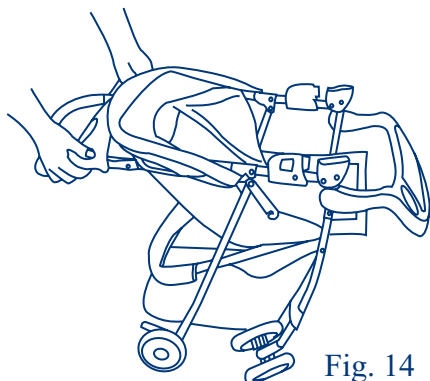

Fig. 14
* Close the canopy as described in the Canopy section above. To fold the stroller slide the red fold lock with your thumb while squeezing the large red fold button in the center of the handle and push downward on the handle. Once the stroller begins to fold, release the red handle and pull rearward on the child tray until the stroller is folded. Secure the stroller in the folded position by fastening the fold locking latch, located on the right side of the stroller at the intersection of the handle and the rear leg tube, over the extended rivet on the lower frame tube. Please see figure 14 and 15. NOTE: before folding firstly to recline seat by releasing buckle as described in seat back position section above.